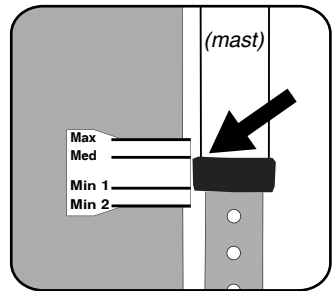

Figure 3: Move the calibration gauge so the medium mark lines up with the bottom of the mast.
- Next, move the downhaul gauge at the bottom of the sail so that the medium mark of the gauge lines up with the bottom of your mast (figure 3).